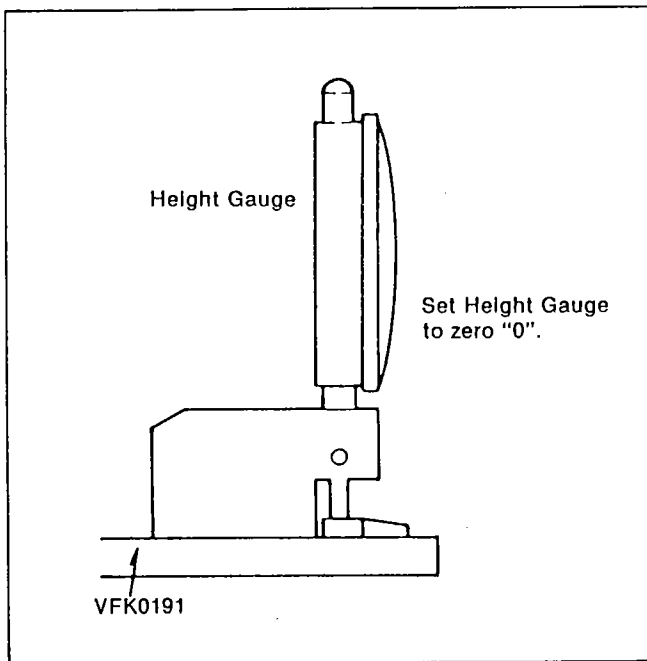

Figure M7
- Place the Reel Table Height Gauge on the Post Adjustment Plate and set the gauge to zero "0" as shown in Figure M7.